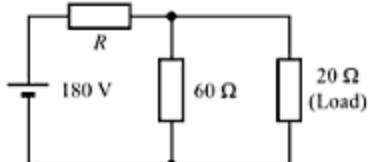

Fig. 4.49
19. In the circuit shown in Fig. 4.49, determine (a) the value of  $R$  so that the load of 20 Ω draws maximum